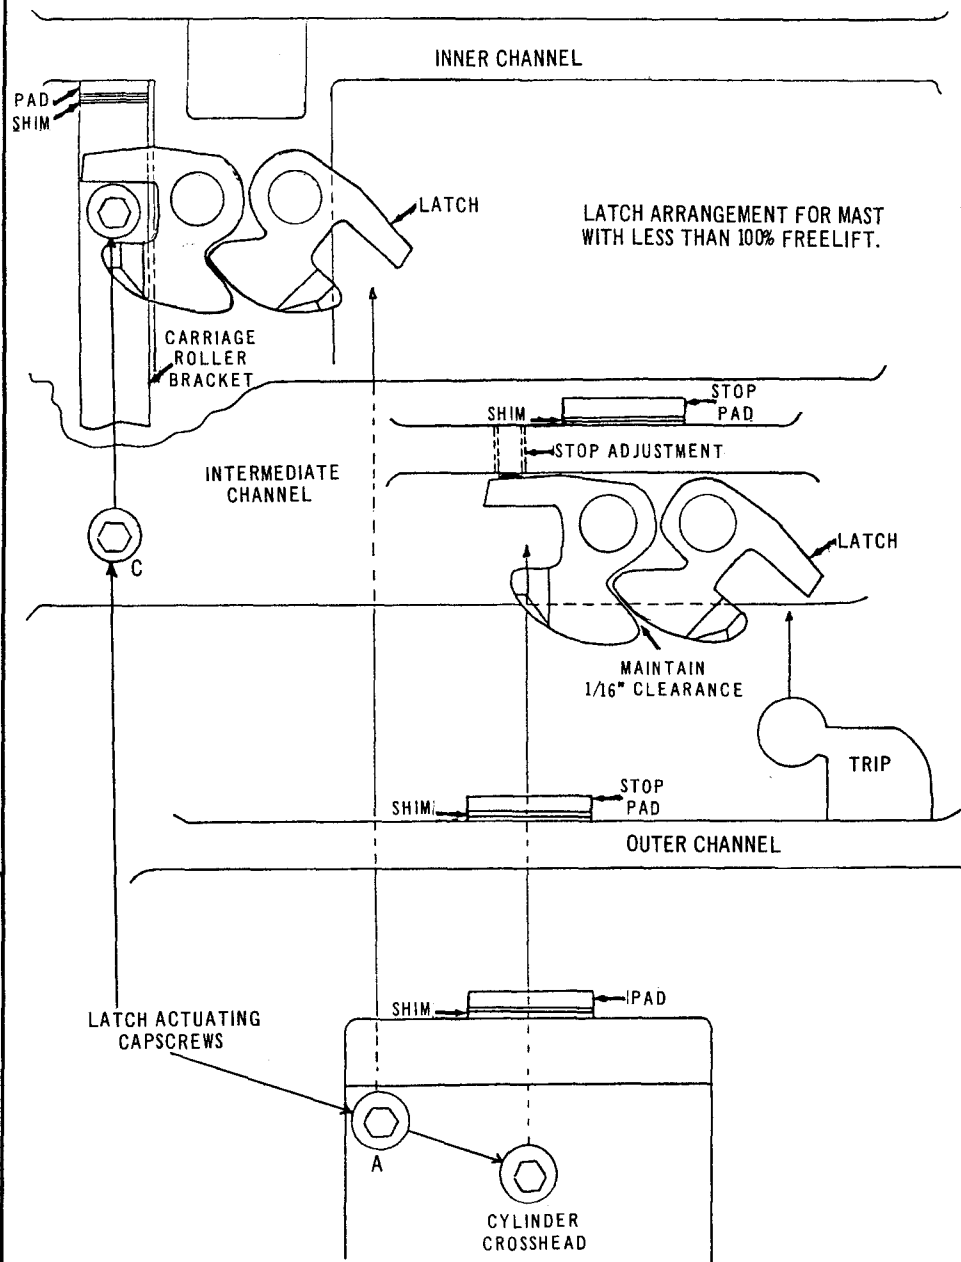

FIG. 7
**NOTE:** For proper latch mating description, see Fig. 7 and 8.
5. An adjustable setscrew stop has been provided for the intermediate channel latch. Adjust the stop to bring the latch throat to a horizontal position. (Parallel with top of the intermediate channel) See Fig. 7 and 8.
**NOTE:** Refer to Fig. 7. Latch actuating capscrews will appear at points "A" and "C".